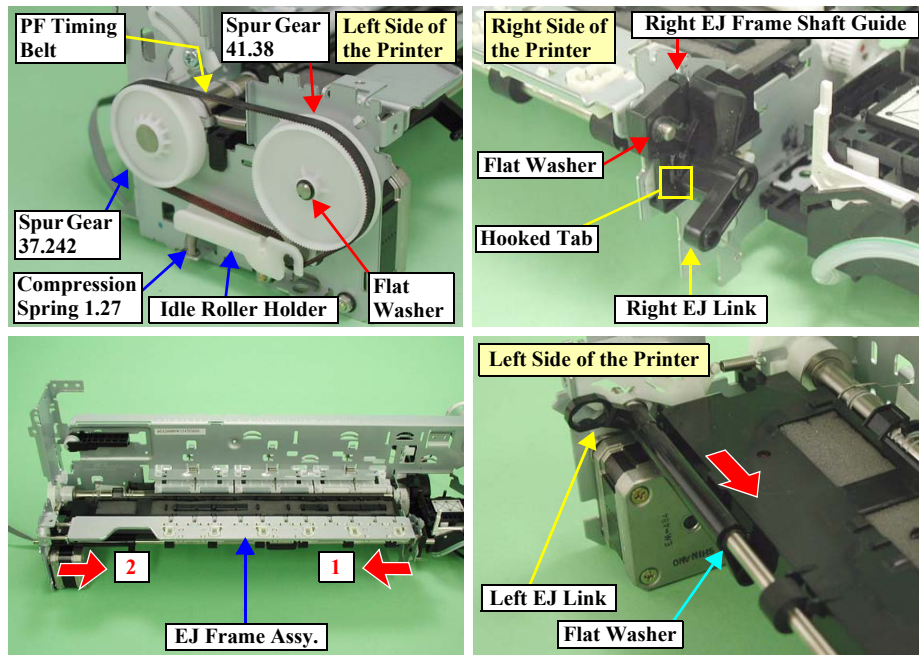

Figure 2-91. Removing the Front Paper Guide and EJ Roller Assy. (1)
5. Remove the EJ Frame Assy. in the order and orientation shown in Figure 2-91.
□ Illustration (2)